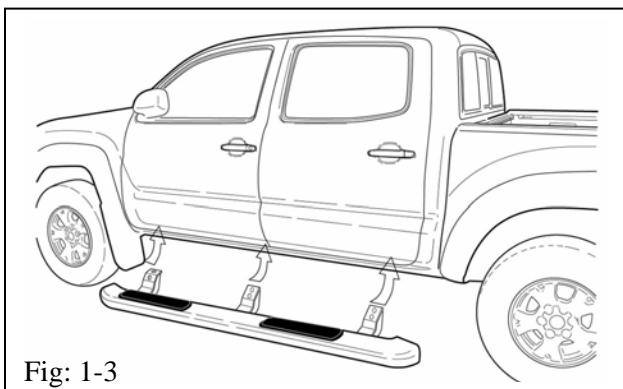

Fig: 1-3
- (b) Place the side step under the vehicle and line-up the mounting holes on the brackets with the mounting holes on the vehicle. (Fig. 1-3)